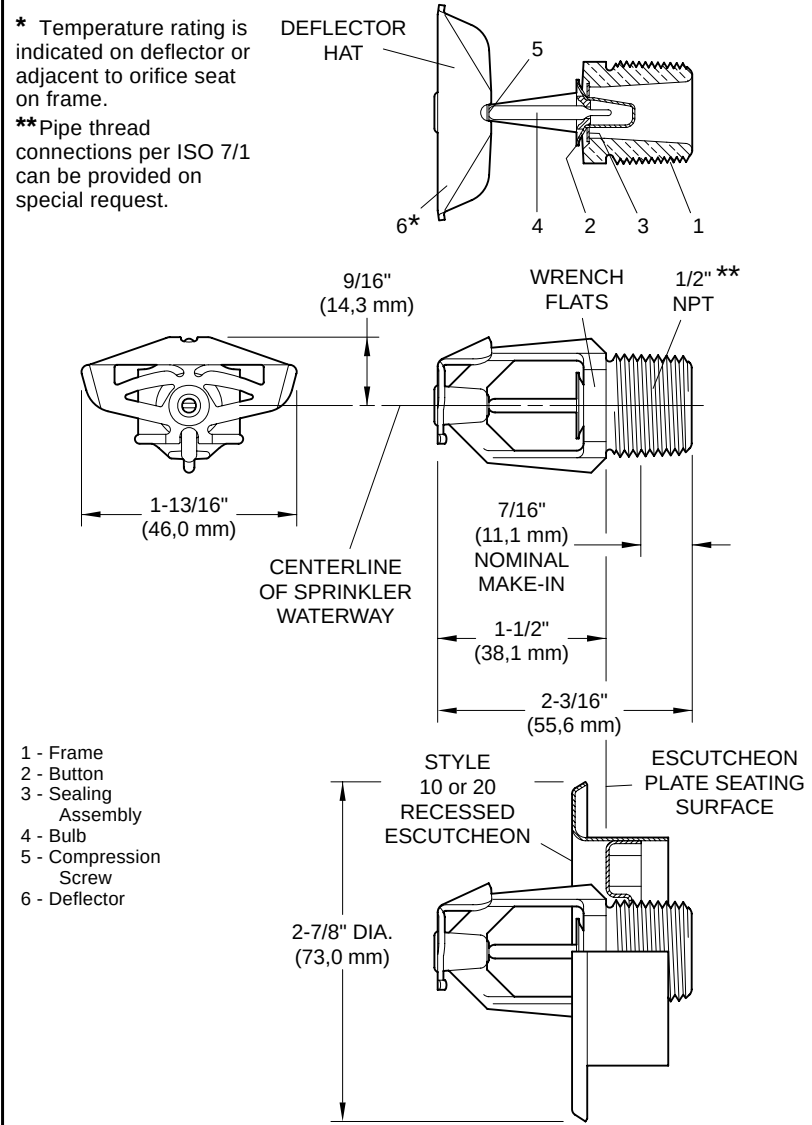
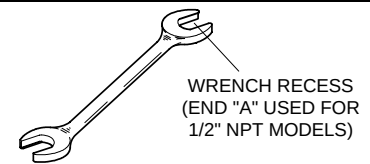
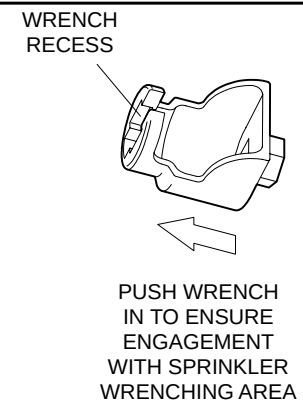

FIGURE 1
FIGURE 5
FIGURE 6
Step 3. Tighten the sprinkler into the sprinkler fitting using only the W-Type 6 Sprinkler Wrench (Ref. Figure 5). With reference to Figure 1 or 2, the W-Type 6 Sprinkler Wrench is to be applied to the wrench flats.
Step C. Tighten the sprinkler into the sprinkler fitting using only the W-Type 7 Recessed Sprinkler Wrench (Ref. Figure 6). With reference to Figure 1, the W-Type 7 Recessed Sprinkler Wrench is to be applied to the sprinkler wrench flats.